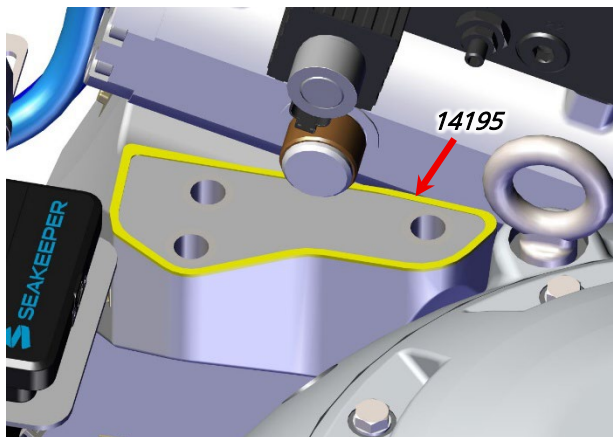

Figure 16: Inboard gimbal cap gasket detail.
- a. **POSITION** inboard gimbal cap gasket (P/N 14195) on Seakeeper per Figure 16.